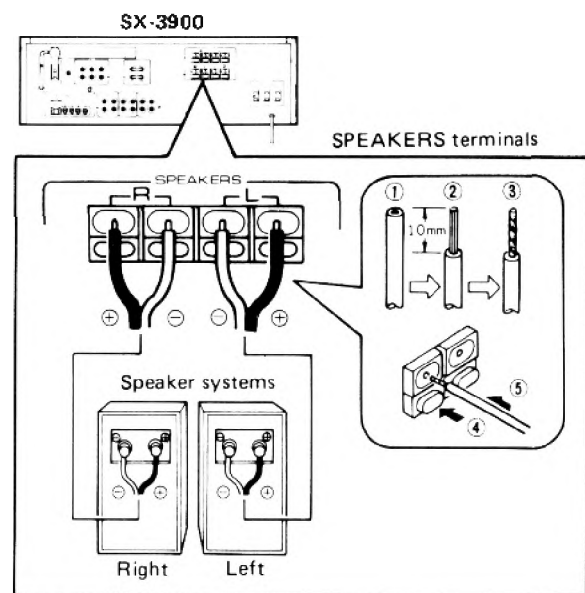

Fig. 1
SPEAKER SYSTEM CONNECTIONS (Fig. 1)
1. Cut off the covering of the speaker cords as shown in Fig. 1.